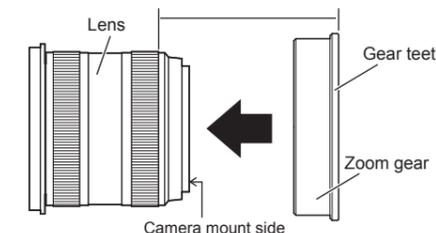

Fig.5
- Attach the gear to the lens in parallel alignment with the lens as shown in Fig.5**